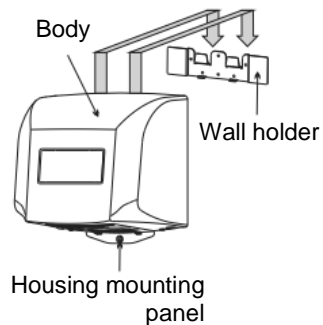

Fig. 4
- Hand the hand dryer on the wall holder (fig. 4).